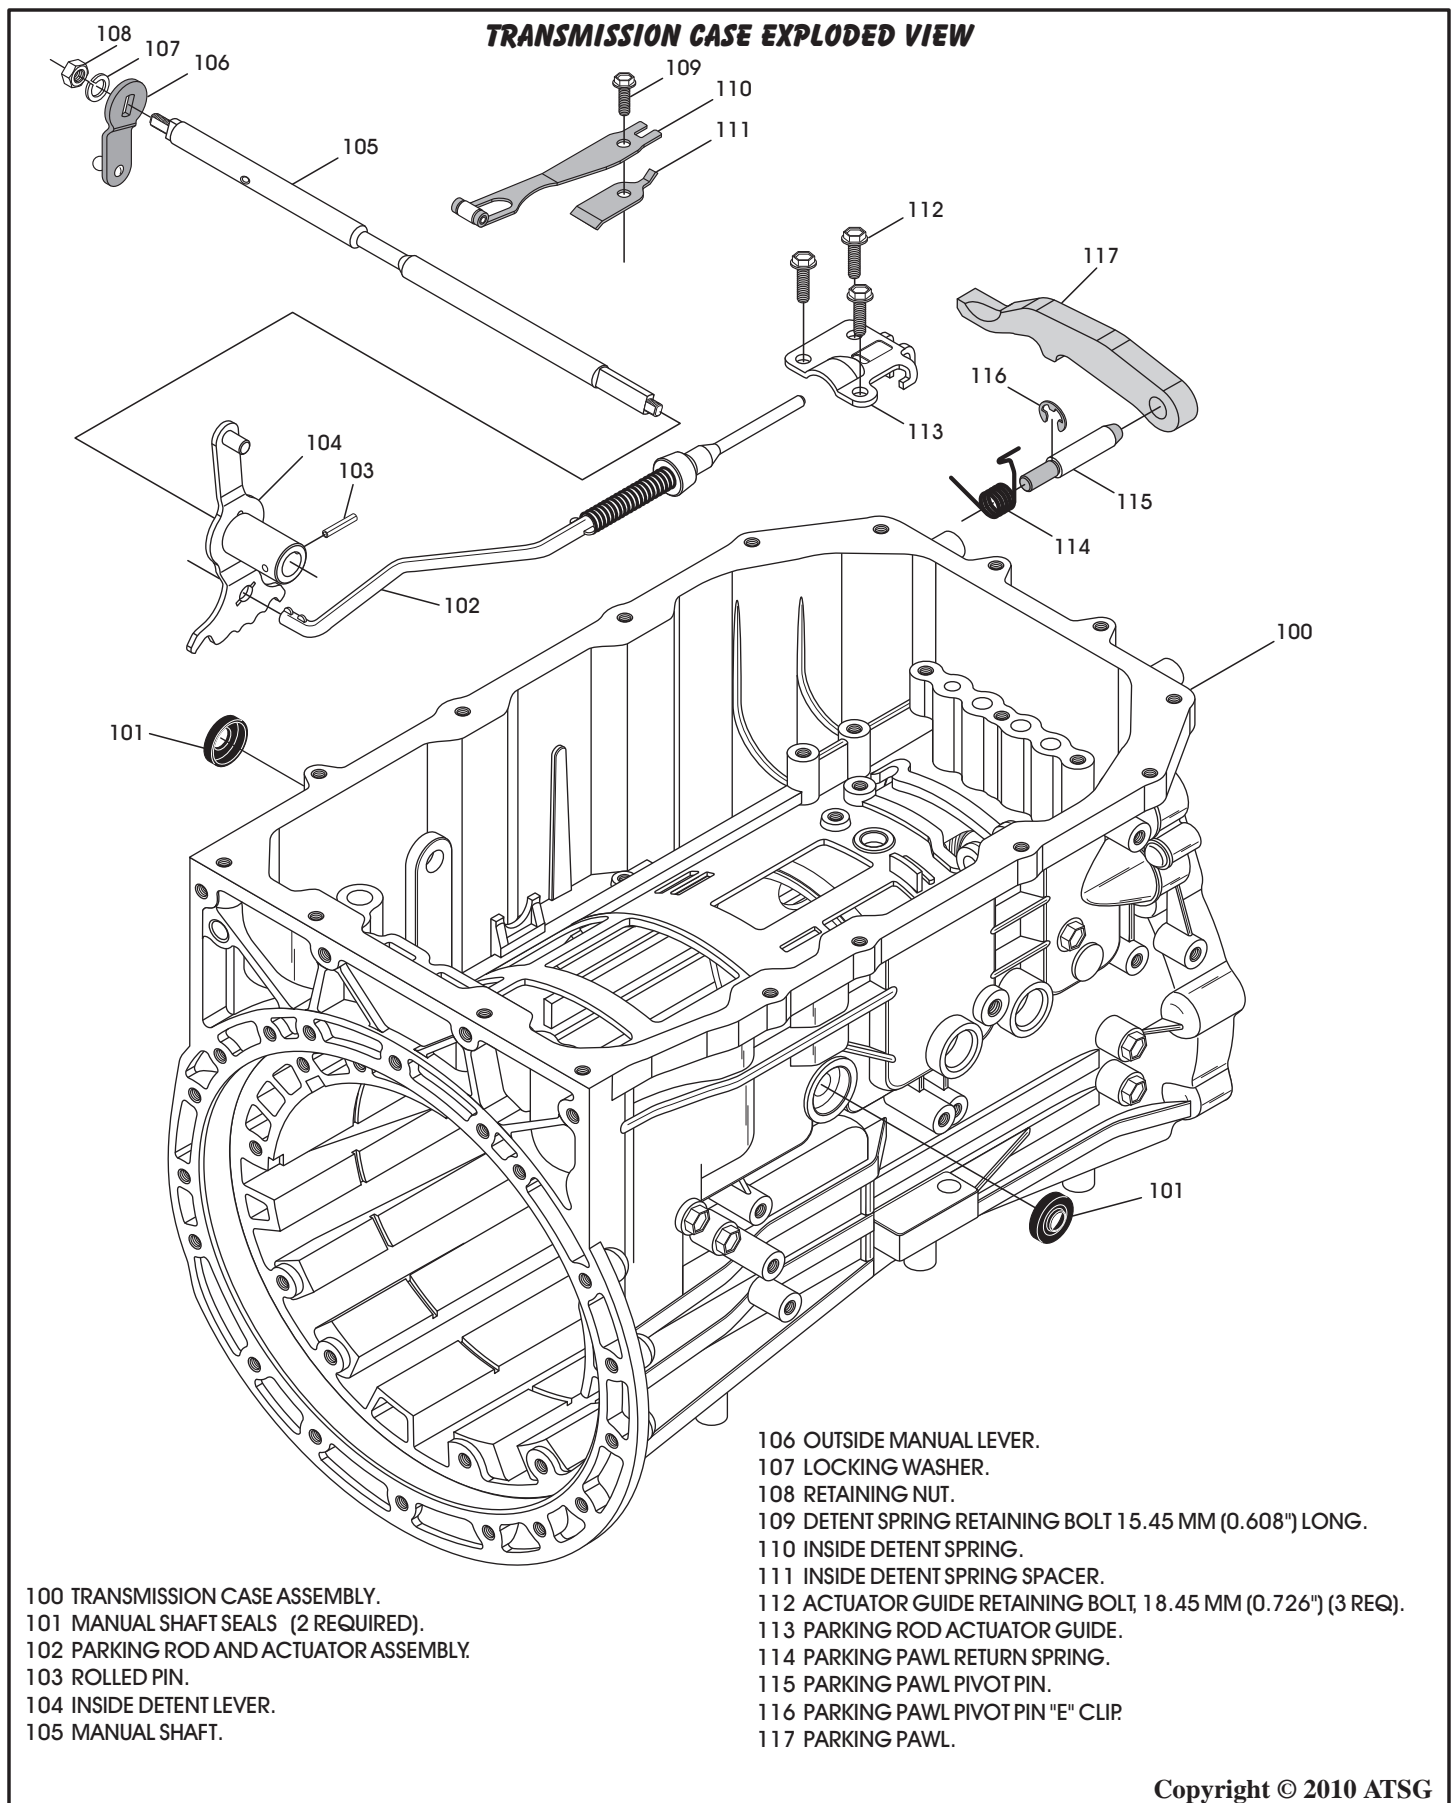

Figure 74
69. Remove the manual shaft from the right hand side of case, as shown in Figure 74, by sliding it out through the inside detent lever and case bore.
70. Remove the inside detent lever and park rod, as shown in Figure 74.
71. Remove the 3 bolts from park rod guide and remove park rod guide, as shown in Figure 74.
73. Remove the park pawl return spring, park pawl pivot pin and park pawl, as shown in Figure 74.